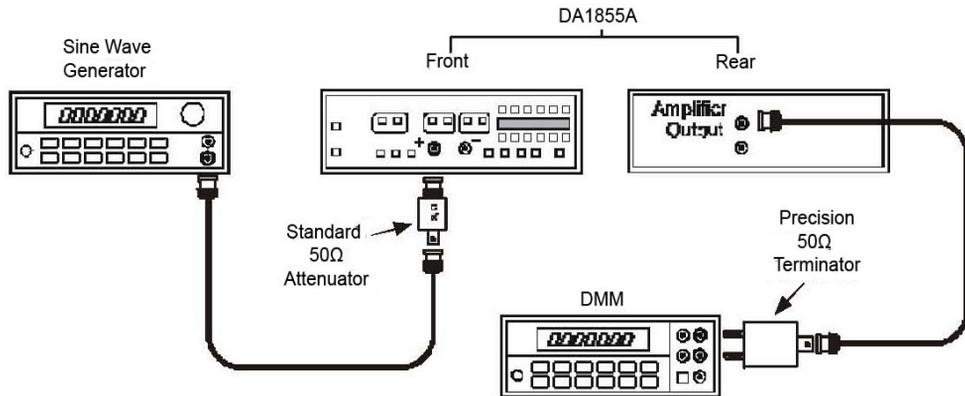

Figure 15, ±10 Attenuator Accuracy Setup.
- Connect the DA1855A **AMPLIFIER OUTPUT** cable/precision termination to the DMM. Refer to Figure 15.